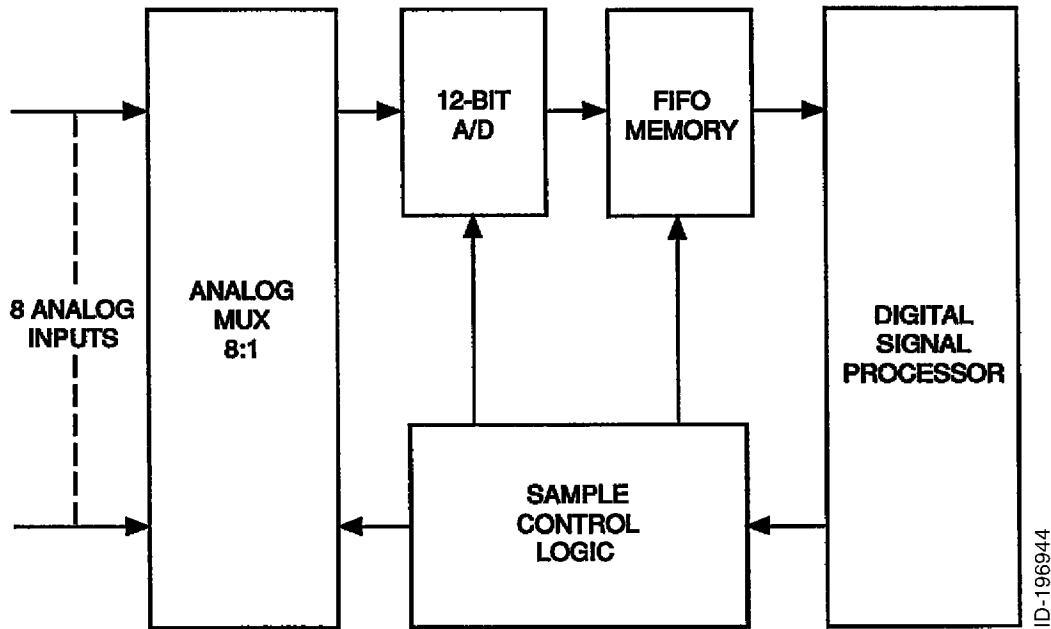

Figure 6. (Sheet 1 of 1) Input Filter Module (GRAPHIC 34-42-37-99B-807-A01)
- 1 See Figure 6 (GRAPHIC 34-42-37-99B-807-A01) for a block diagram of the DSP section. The analog signals from the RF module are digitized in 12-bit A/D converter U57. The A/D converter is also used to monitor signals from the BITE test points on the RF module and the power supply voltages. The digitized data from the A/D converter is stored in FIFO memory devices U18 and U29, which are accessed by the DSP. The output of the FIFOs goes